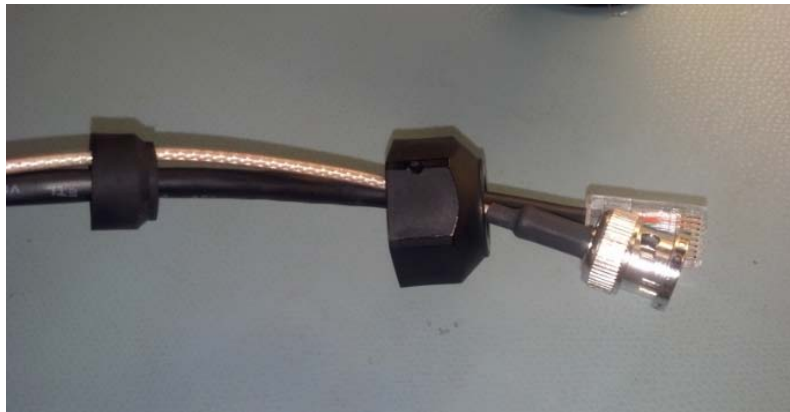

Figure 11: Analog and Ethernet Cable through the Gland
1. Put the nut onto the cables first. And then push the analog video cable and CAT5 cable through the gland (see Figure 11). The CAT5 cable goes through the center. The analog video goes through one of the 5 outer holes.